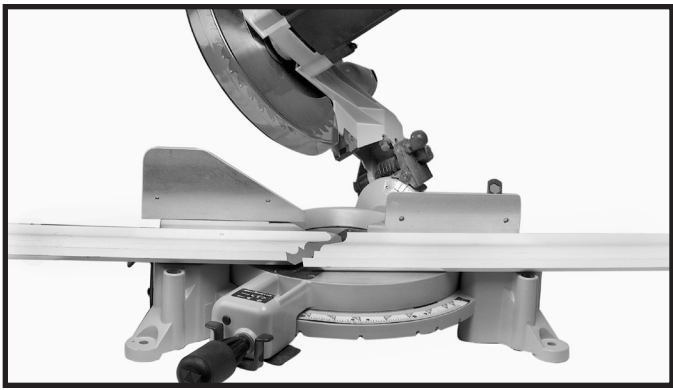

Fig. 37
4. crown molding and other bevel-type cuts (Fig. 37).